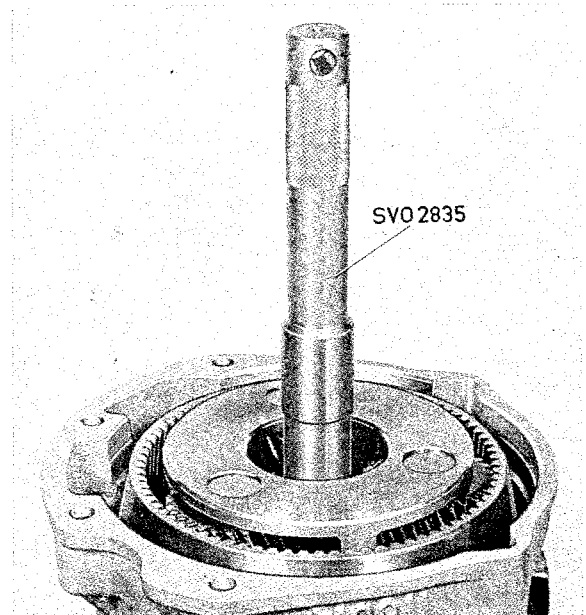

Fig. 4-51. Planet gear installation
8. Place the planet carrier complete with planet gear in position on the output shaft. Guide up the splines into the planet carrier and one-way clutch with drift 2835, Fig. 4-51.